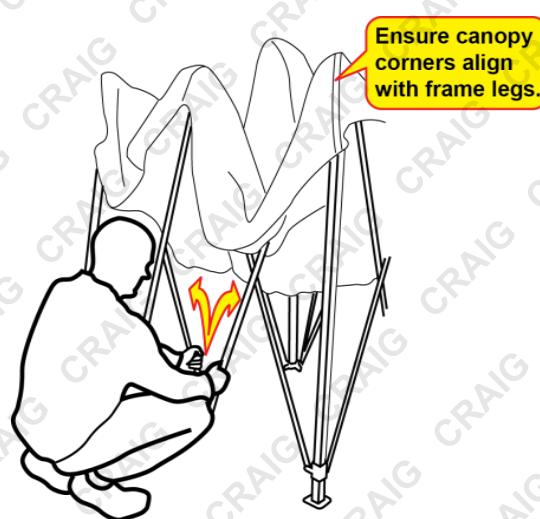
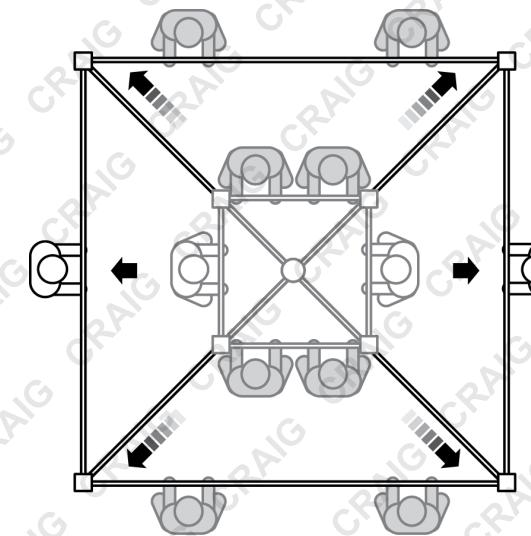

Fig 3 - Hold Frame, Lift and Expand
Fig 4 - Expanding the Frame
4. On opposite sides of the gazebo, grab the middle section of the frame with both hands (Fig 3). Simultaneously lift the sections of frame up and slowly move backwards, allowing the frame to expand to its full size (Fig 4). For larger model gazebos it is recommended to have 2 people on each long side of the frame (shaded figures in the image) and to lift together to expand the frame.